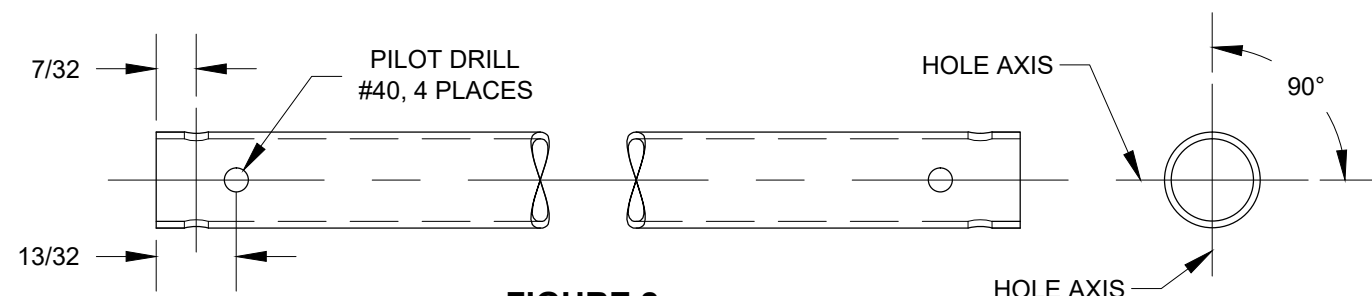

FIGURE 2:
Step 2: Use a #40 drill to make four pilot holes in each end of both W-1018A Bellcrank to Aileron Pushrods as shown in Figure 2. Use a drill press to drill the holes and use a vee-block to support the pushrod tube while drilling. Deburr the hole edges on the inside of the pushrod tubes.